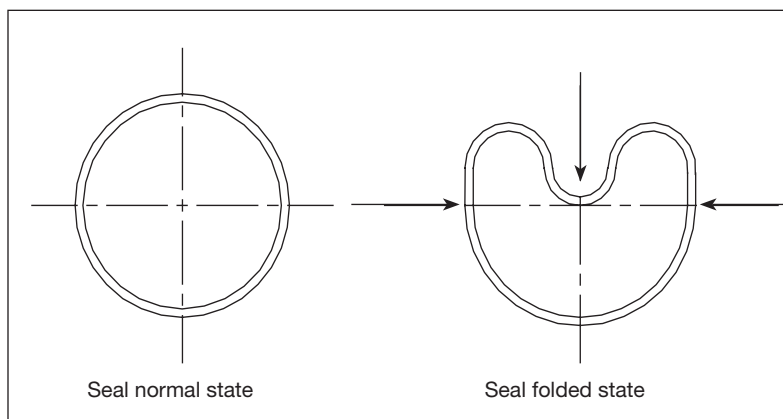
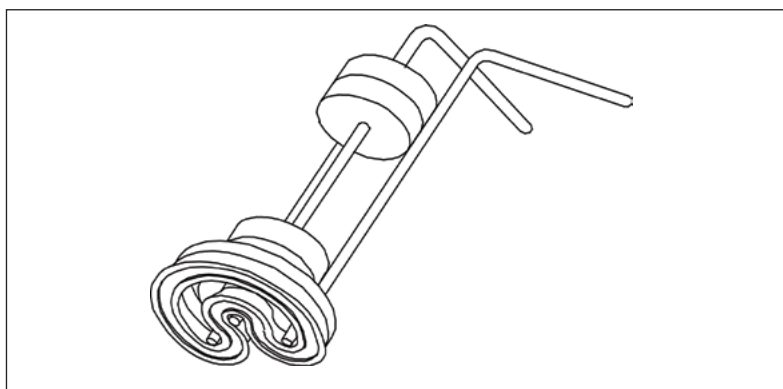

Figure 2-22. Rod seal folding
Figure 2-23. Three-leg installation tool for polyurethane and rubber seals
3. By hand, gently fold the seal into a kidney shape (Figure 2-22) and install into the groove. For rubber and polyurethane seals, the use of a three-prong installation tool can be helpful for folding the seal and installing it into the groove (Figure 2-23).